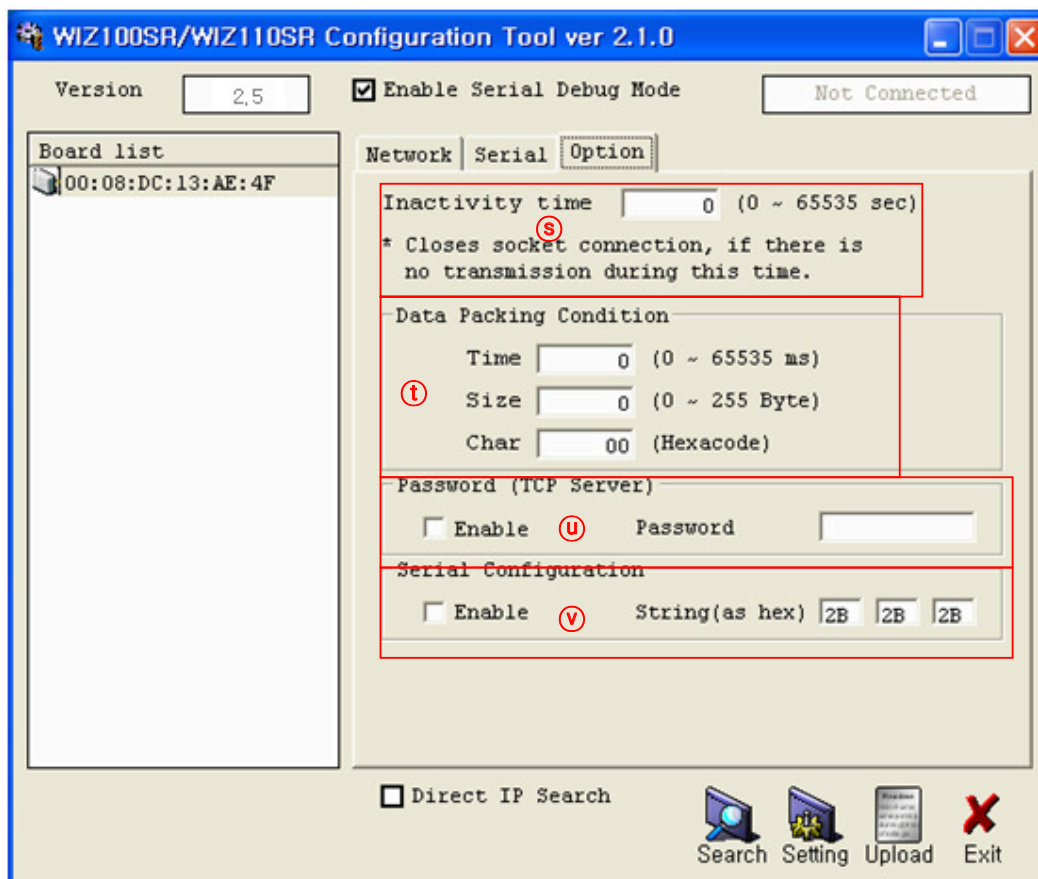

Figure 9. Configuration Tool (Option Config.)
3. As shown in Figure 9, select Option tab and check 'Enable' combo box of "Password" menu.
④Serial Configuration: